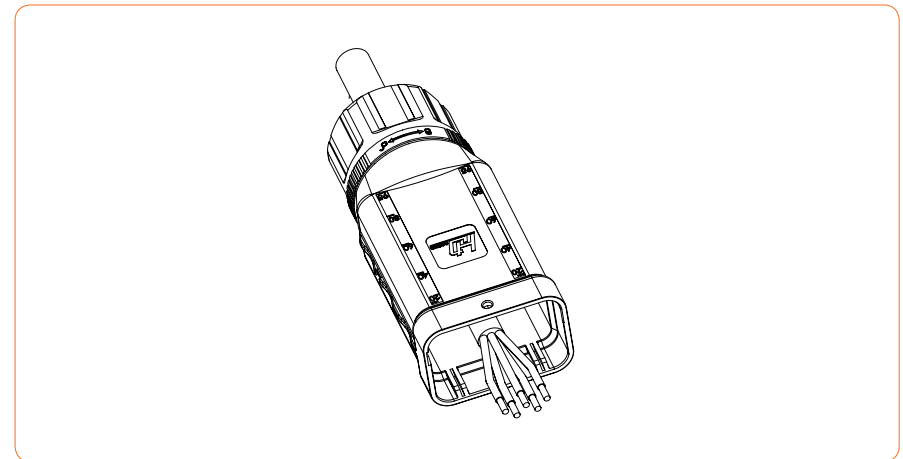

Figure 4-18
② Thread the stripped wire into the lock nut and the main body in turn (the flexible wire needs to be riveted to the insulated terminal), as shown in Figure 4-18: